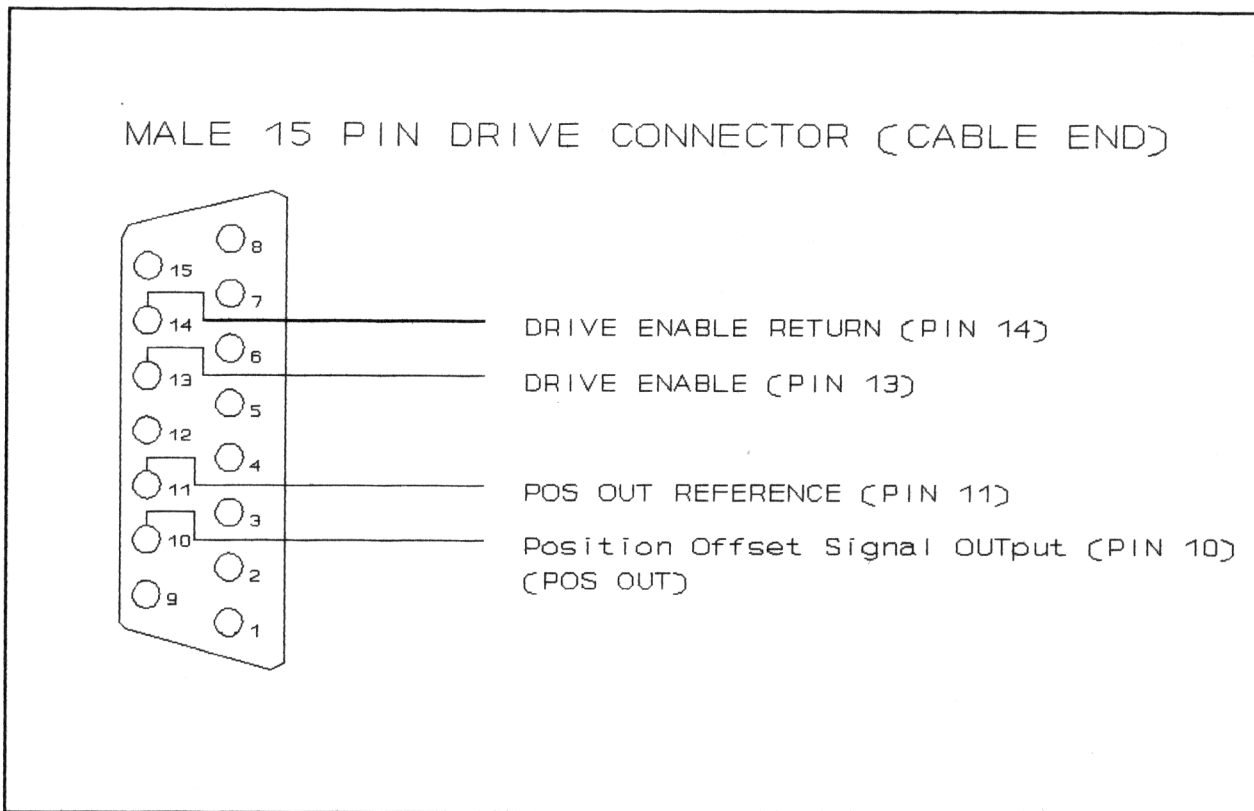

Figure 8-2 DRIVE connector Velocity Loop Pin-Out
3. Connect a jumper (Figure 8-2) between pin 13 (green wire) and pin 14 (white wire) of the male 15 pin DRIVE connector.